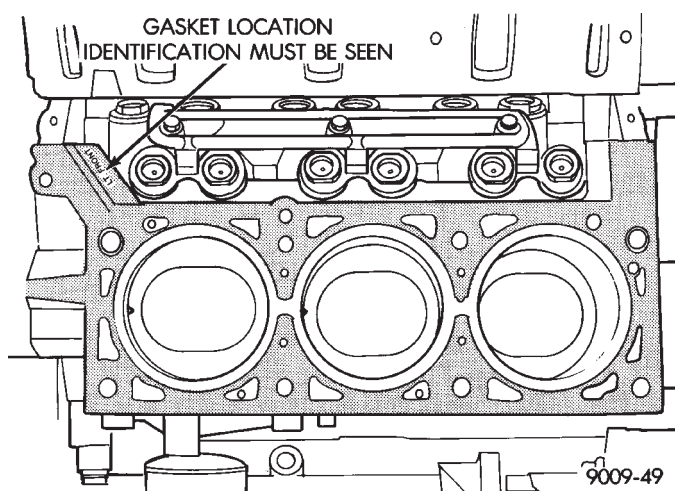

Fig. 32 Head Gasket Installation
(1) Clean all surfaces of cylinder block and cylinder heads.
(2) Install new gaskets on cylinder block (Fig. 32).